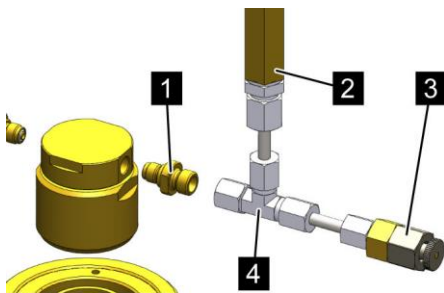

Fig. 68: Mounting the pressure relief valve
2. ➤ Install the adapter (Fig. 68/1) on the outlet of the last pneumatic release device in the pilot line.
3. ➤ Connect the tee (Fig. 68/4) to the adapter in such a manner that the "malfunction pressure safety device" (Fig. 68/2) can be screwed on from above and the pressure relief valve (Fig. 68/3) can be screwed onto it horizontally.